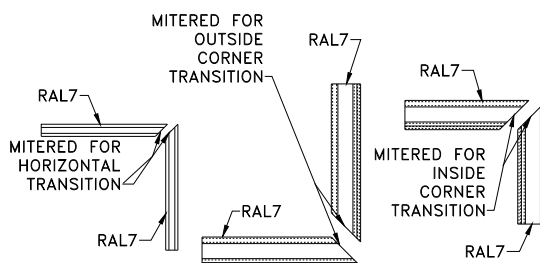
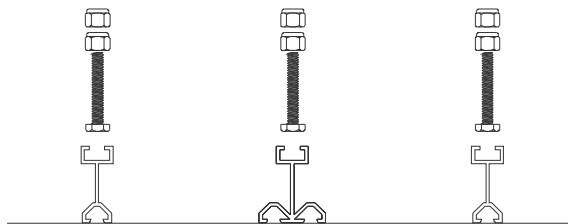
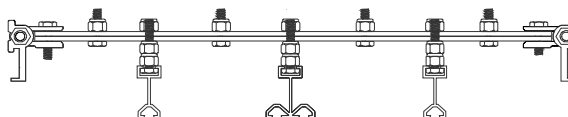

Figure 11
Figure 12
Figure 13
STEP 19. Select one of those pantograph bars, the subchannels and the fasteners. If the subchannel supports a transition in the face seal, miter the subchannel as necessary for the transition (see Figure 11). Set the subchannels on a smooth, flat, and level surface. Using the fasteners provided by the factory, insert the head of one bolt into each subchannel raceway (RAL7 and RAL8), and slide the bolts into the proper position along the raceway. Select two jamb nuts per bolt, and attach them to each bolt, (see Figure 12). Tighten the bolts by hand so that they are snug. Attach the selected pantograph bar by inserting each subchannel bolt into the corresponding bolt hole in the selected pantograph bar (see Figure 13). Ensure that the subchannels are straight, level and properly aligned. Select a nut for each bolt and loosely attach it onto the end of each subchannel bolt, attaching the pantograph bar to the subchannels. Repeat this procedure for each of the pantograph bars for the section of the joint cover system being installed.